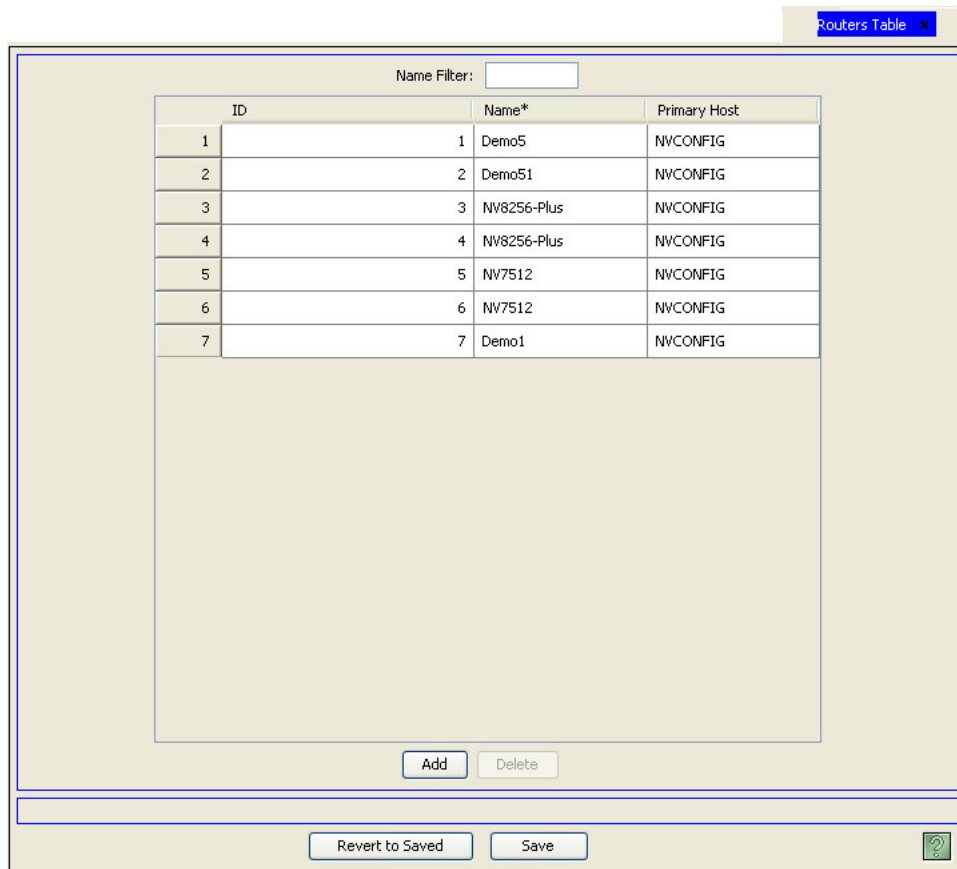

Figure 7-17. Routers Table
- 2 From the Navigation area, select the 'Views' pane and then 'Routers'. The 'Routers' table appears, as shown in Figure 7-17.